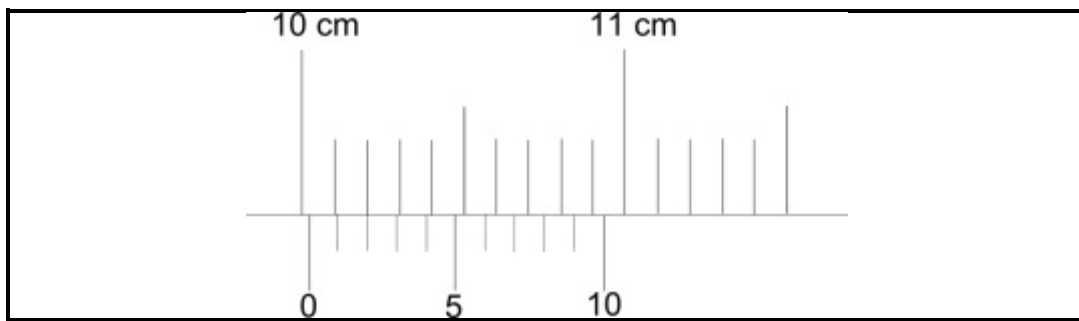

FIGURE 5.2
5.2 Give the vernia caliper reading shown in FIGURE 5.2 below.